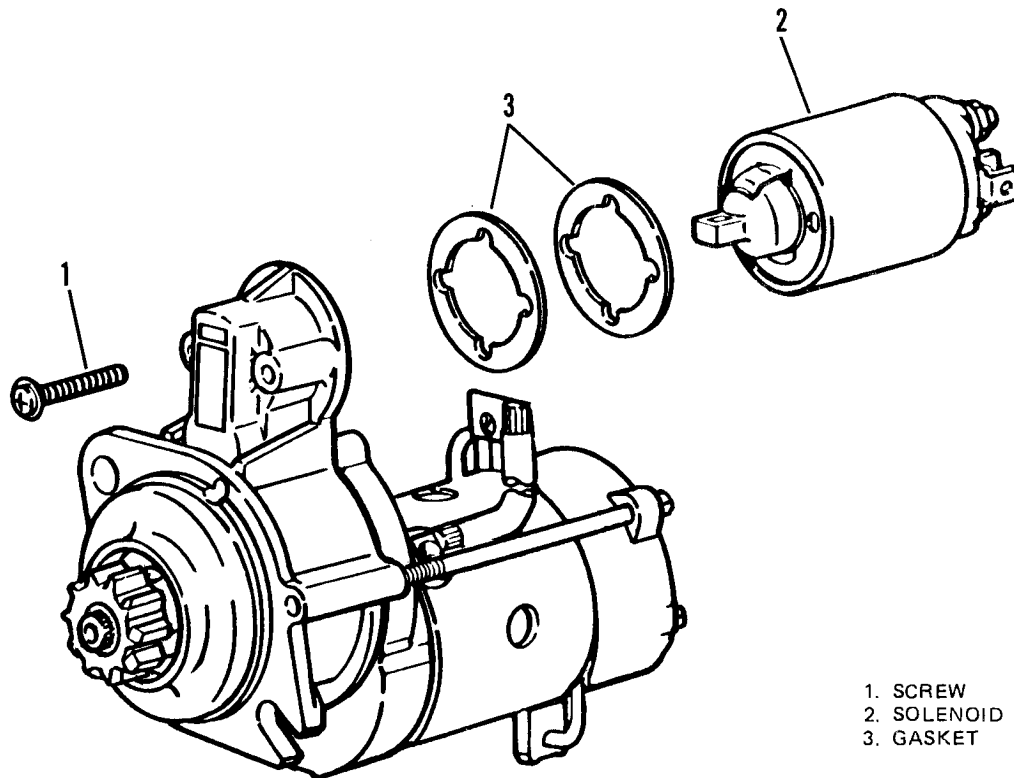

Figure 7-15. Starter Solenoid.
(1) Tag and disconnect all wires connected to the solenoid.
- (2) Remove screws (1, Figure 7-15) that hold the solenoid (2) to the starter motor. Remove solenoid and remove gaskets (3).